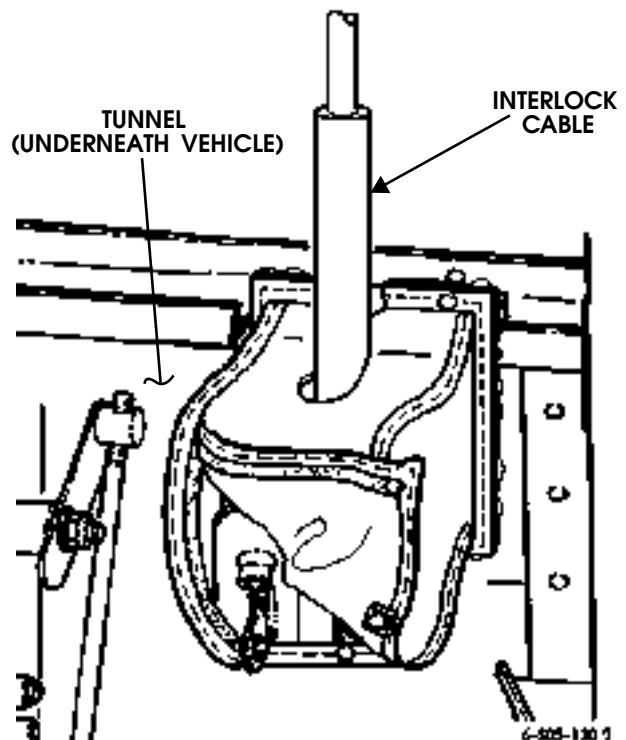

Figure 5-61: Shifter Boot Cover Removal
7. Work shifter boot cover lip out of tunnel opening and remove from under vehicle (Figure 5-61).